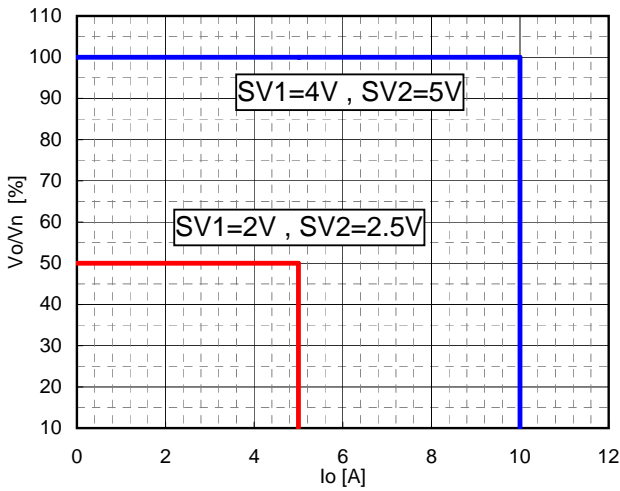

Fig2.1 Vo - Io
Fig.2-1 constant current circuit by using a current sensor
In the circuit shown in Fig.2-1, the output current can be adjusted by the signal voltage (SV). For example, in case signal voltage is 5V, the output current should be 20A. And if the voltage (SV) doesn't change, the output current could be kept constantly.
In case that the output current is too big and the suitable shunt resistor can't be selected, the current sensor (IC2) is available to the circuit as shown in Fig.2-1.